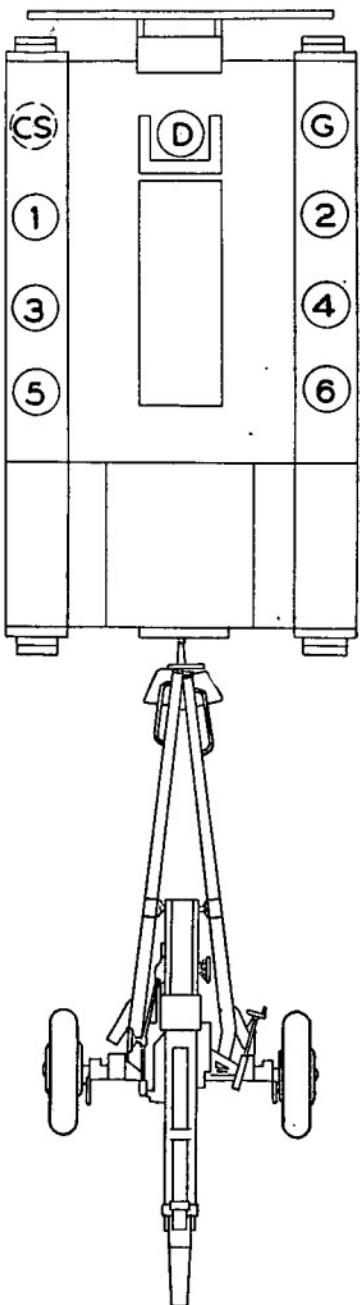

Figure 6. Posts of cannoneers mounted in tractor.
(2) *When medium tractor M5 is used as prime mover.* At the first command, the driver takes position directly in front of the right door, opens it, and faces to the rear holding the door. The chief of section opens the left door and takes position 4 feet in front of it facing to the rear. At the second command, the gunner and cannoneers Nos. 1 to 6, inclusive, on their respective sides, will in turn step on the footrest on the bumper and grasp the hand grips located on the body of the tractor (or the grips on the windshield when down). They will then step up into the body of the tractor and take seats as indicated in figure 6. The gunner closes the right door and the chief of section the left door when all personnel are seated. Cannoneer No. 7 moves double time to the executive's truck and mounts. If the chief of section and driver are to be included in the movement, the commands are: 1. PREPARE TO MOUNT, 2. MOUNT.